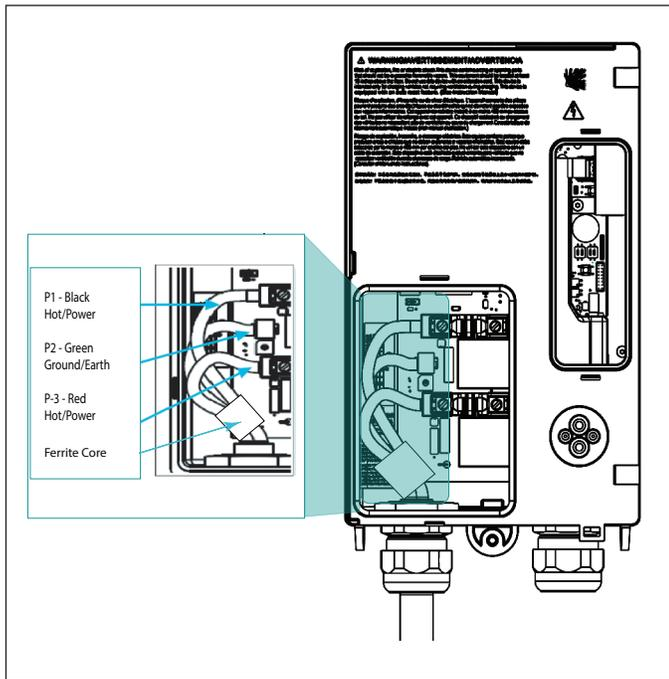

Figure 8. Hard wire VersiCharge
8. Slide the Ferrite core over the black and red wires ONLY, and into position per Figure 8 (the green wire/ground should not be placed through the Ferrite core).